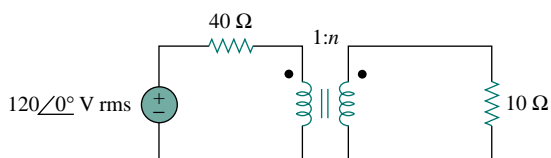

Figure 13.103 For Prob. 13.36.
- 13.36** For the circuit in Fig. 13.103, determine the turns ratio n that will cause maximum average power transfer to the load. Calculate that maximum average power.